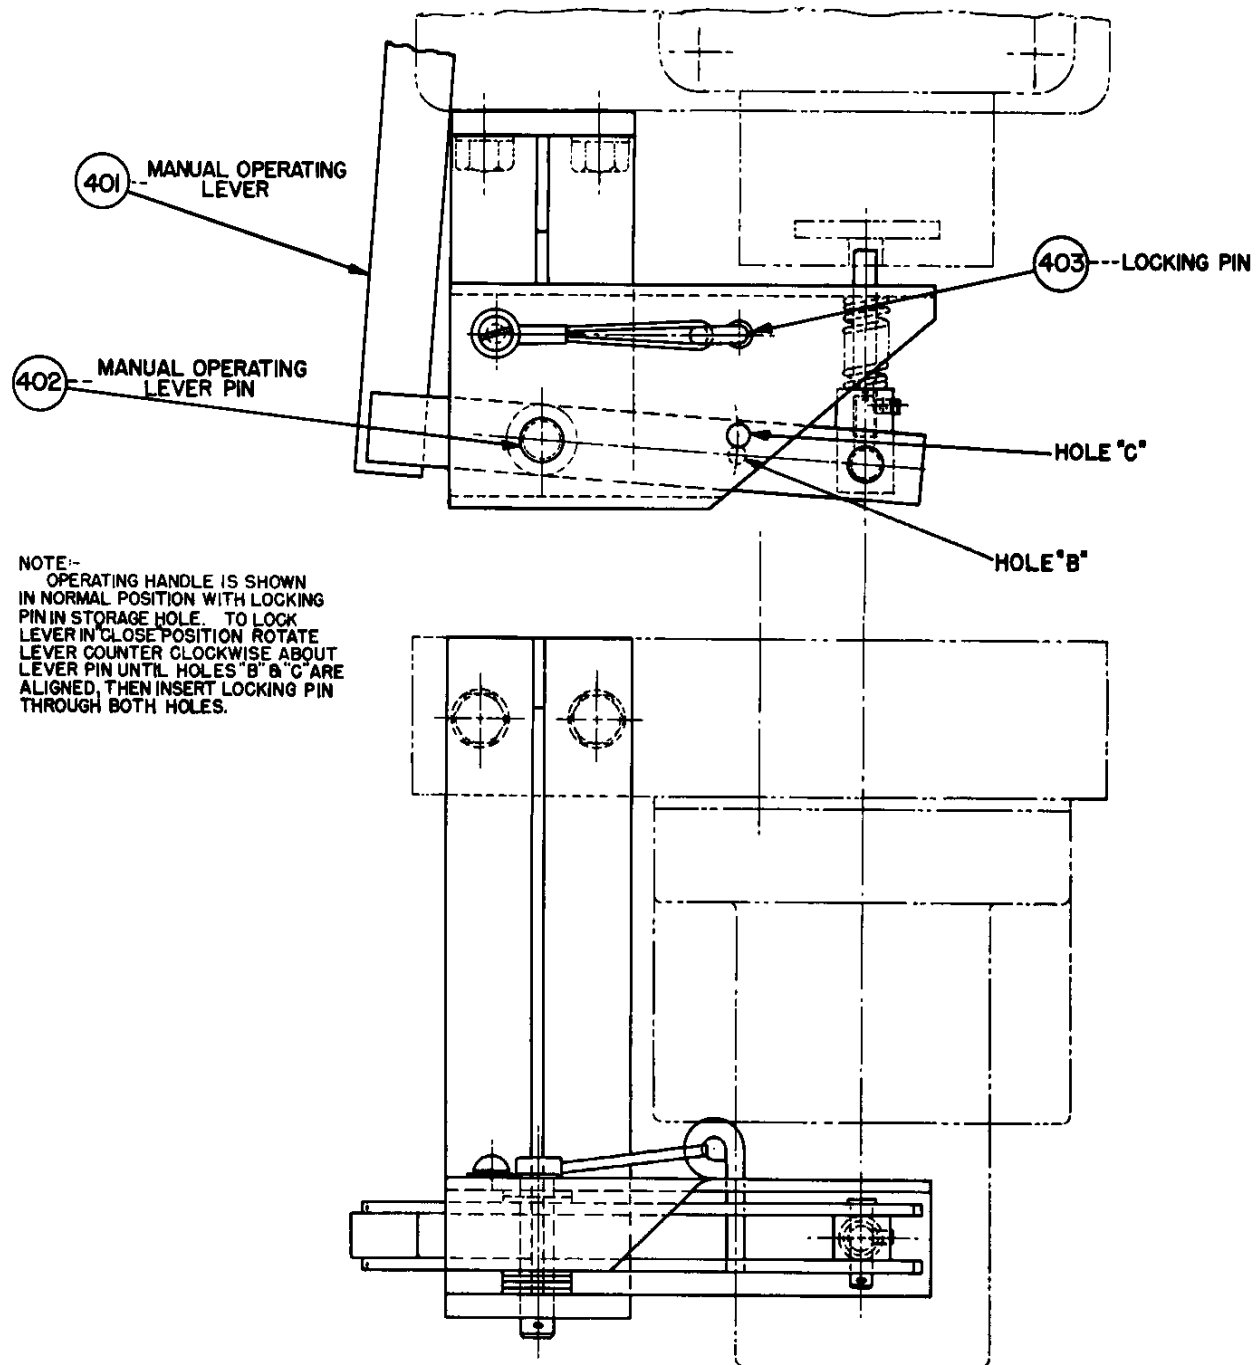

FIG.4
2. Return pilot valve spool to normal position by removing pin (403) from hole "C" (Fig. 4) allowing springs to return valve to normal position.
FULL SPEED CLOSING, MANUAL OPERATION (Ref. Fig. 4)